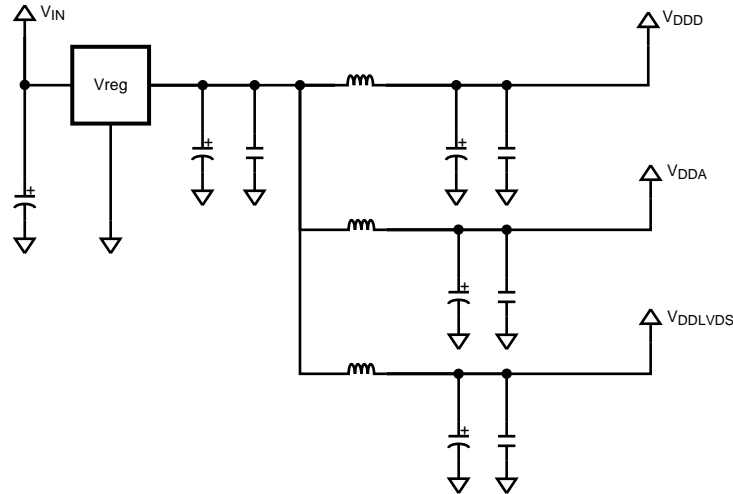

Figure 35. Recommended Setup for Powering Device
1. Use Figure 35 configuration for powering the device.
3. Use a multi-layer boards as shown in Figure 35 to ease routing, and to provide a low inductance ground plane.